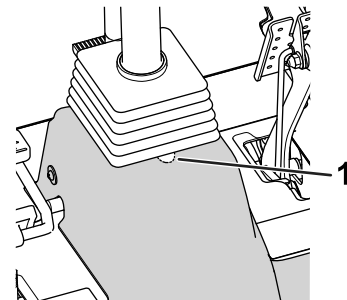

Figure 21
6. Cut out a U-shaped notch on the shroud (Figure 21).